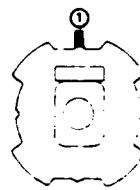

Figure 3a
3. When the correct position has been found, place a rubber wedge between the CRT. If the yoke is tilted up, place wedge 1 as shown in Figure 3a; if it is tilted down, place wedge 1 as shown in Figure 4a.